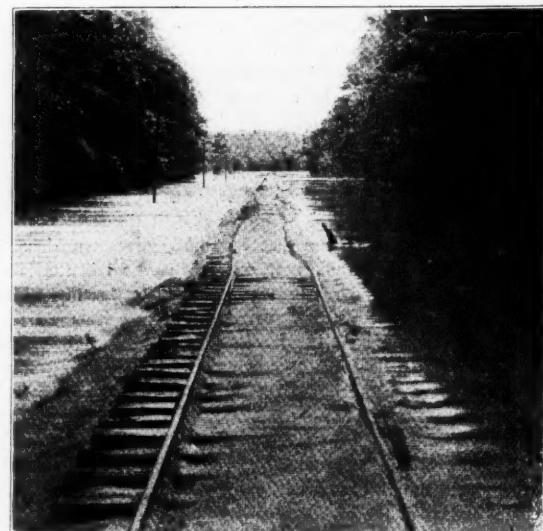

Fig. 3. Washout, A. & V.
3. By capping the trestle bents, either pile or frame, out of level or the equivalent of using a tapered cap, a tapered shim on a level cap or by tilting a framed bent on inclined footings (Fig. 3).
3. The method shown in Fig. 3 applies only to timber trestles, either pile or frame. Fifteen approve one style or other of this figure. A few object to "a" as difficult framing or as being unsightly. Plans "b" and "c" require an excess of timber, and "c" furnishes a bad joint for inducing decay.
Figures 3 and 4 show the effect of high water on the Alabama & Vicksburg Ry., washing out many holes 10 to 150 feet long, and from 1 to 10 feet deep. The track was washed off the embankment at a number of places, but it was restored by lining it back and cribbing the holes with track ties, using 12 x 12 pieces for stringers.